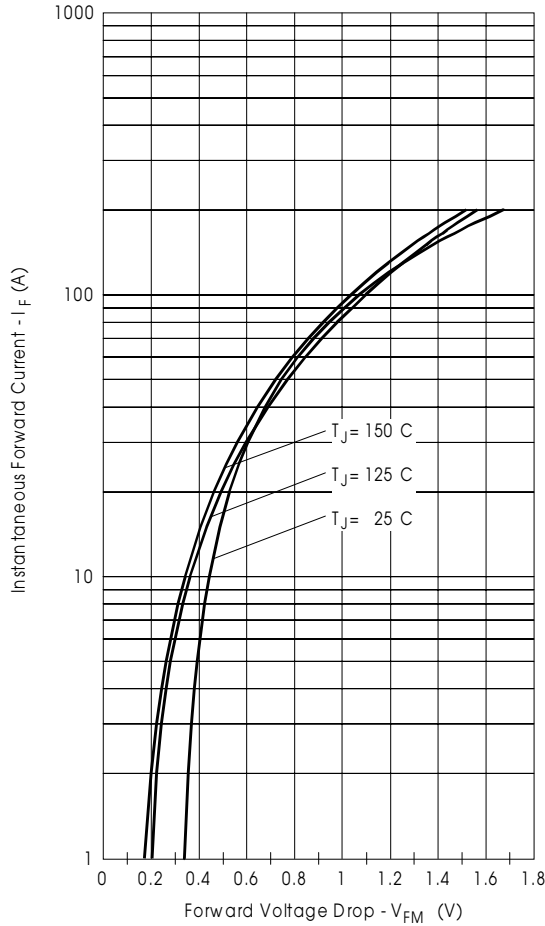

Fig. 1 - Max. Forward Voltage Drop Characteristics (Per Leg)
| V_{FM} Forward Voltage Drop (Per Leg) * See Fig. 1 (1) | Typ. Max. | | |